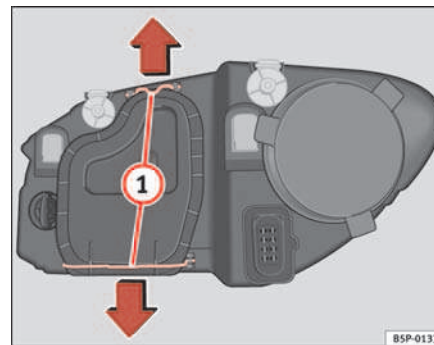

Fig. 175 Dipped head-lights
- Remove the loops ⇒ page 244, fig. 175 ① in the direction of the arrow and remove the cover.